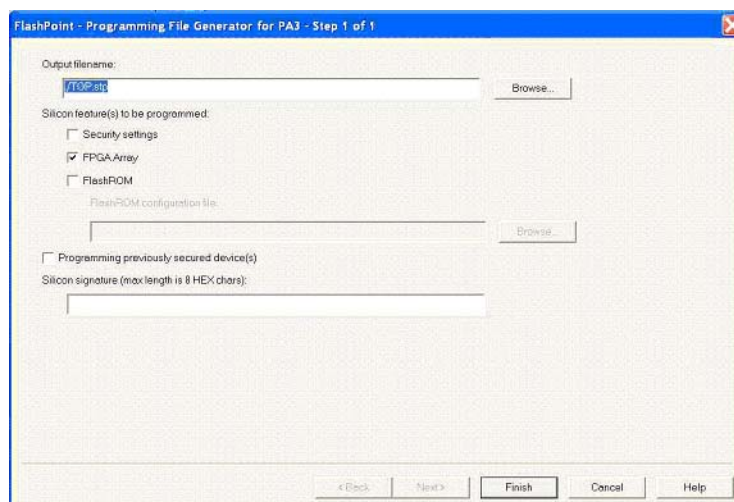

Figure 7-37 • Flash Point Dialog Box
1. Open the **Top.adb** file in Designer and click the **Programming File** icon in the Design Flow window, which opens the Flash Point window (Figure 7-37).